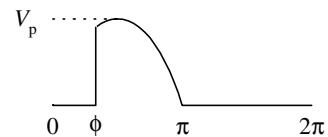

Figure 3-33 Waveform for Problem 3-1
- 3-1** Determine the equation for the waveform in Figure 3-33. The point at which the sine is turned on is ϕ , and may vary. So, your answer should be a function of ϕ . *Hint:* the answer should have 3 parts.
- 3-3** a. Calculate the equation for the average value of the partial sine wave from Figure 3-33.
- 3-5** a. Calculate the equation for the rms value of the partial sine wave from Figure 3-33.
- 3-8** a. Calculate the equation for the power delivered by a current with the shape of the partial sine wave from Figure 3-33, and the voltage as a steady dc value of V_{on} .